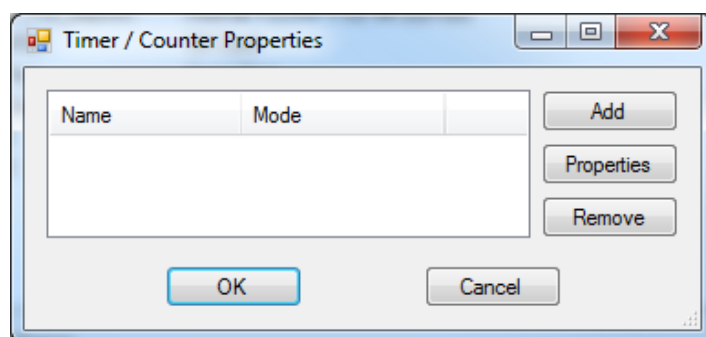

Figure 2-4 - Timer/Counter Properties Dialog
4. Click the **TimerCounter** device (highlight) and click **OK**. The *Timer / Counter Properties* dialog will open. Refer to Figure 2-4.